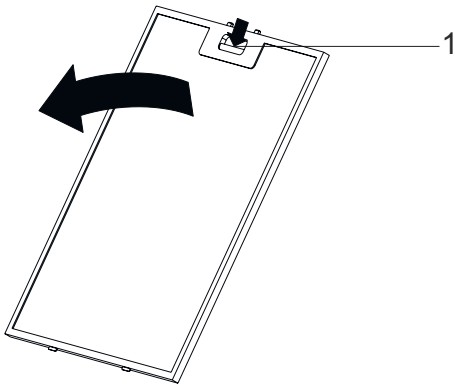

Fig. 9
- Press the aluminium filter tab (1) and pull the aluminium filter to the direction of the arrow (Fig. 9).